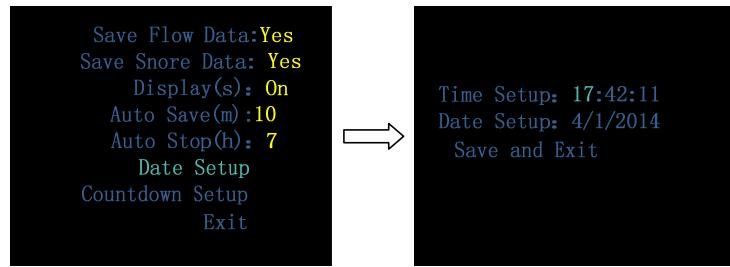

Figure 1-14 “Date Setup” interface
- **Date Setup**, allowing users to set time and date according to their needs. Select “Save and Exit” to exit the “Date Setup” interface, as shown in Figure 1-14.